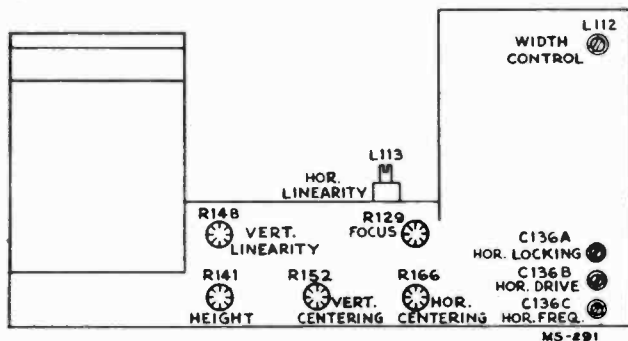

Figure 7—Rear Chassis Adjustments
**FOCUS COIL ADJUSTMENTS**—Turn the centering controls R152 and R166 to mid position. See Figure 7 for location of these rear apron controls.